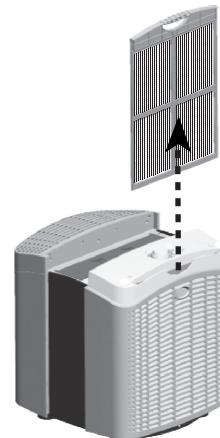

Fig. 5 - Removing the Pre-Filter
1. Remove the Pre-Filter. See Figure 5. Note the Pre-Filter's orientation, as it must be reinstalled in the same orientation. Use a vacuum cleaner to clean the Pre-Filter. Return the Pre-Filter to the unit.